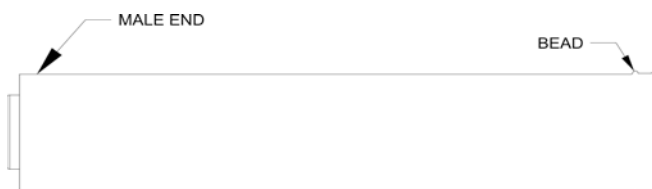

Figure 20: Cut-To-Length Extension (Cuttable)
- a. Concentric Vent Cut-To-Length Extension pipes, **identified in Tables 8 and 10 CAN BE CUT** to required length when used as an extension. **These pipes have plain male end and beaded female end. Always cut the pipe from plain male end.** See Figure 20 'Cut-To-Length Extension (Cuttable)'".